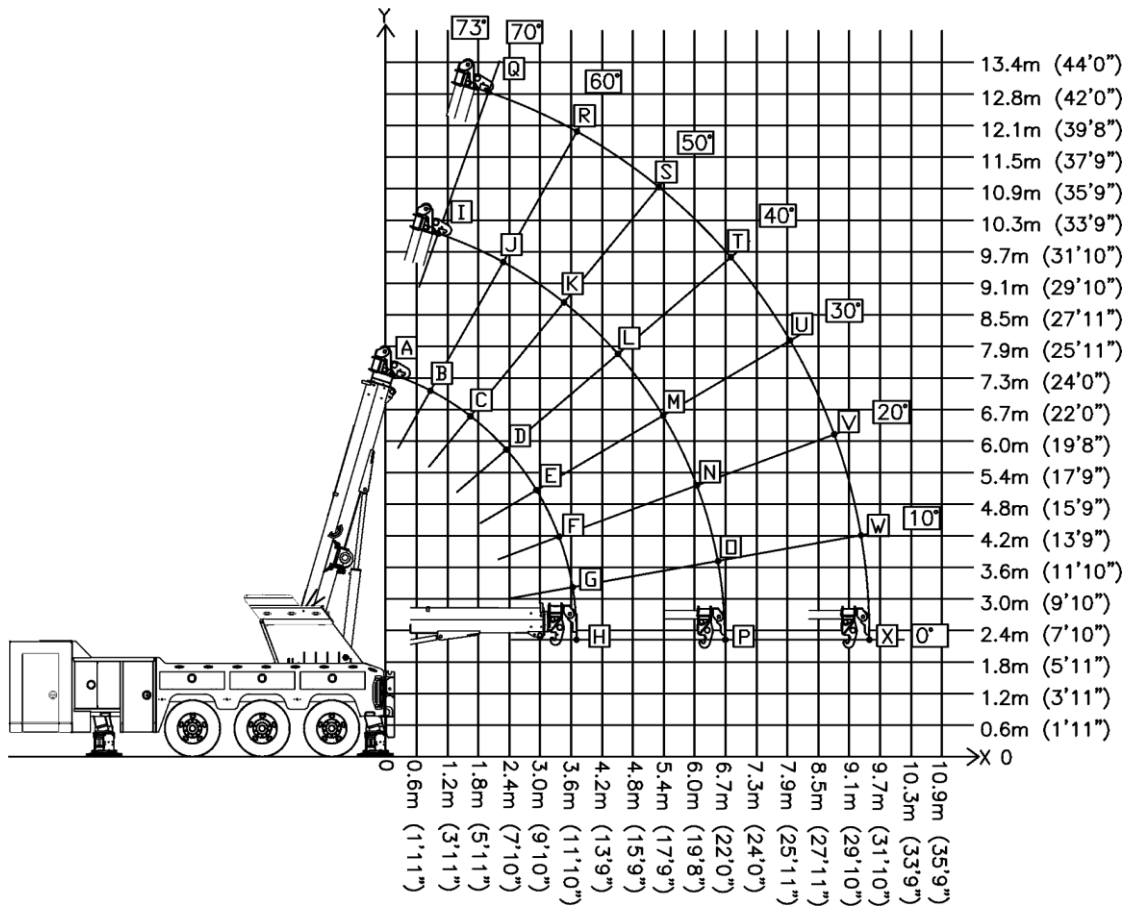

Figure 15 – Lifting Capacity of the 50/65 CSR from Behind
- Figure 15 – Lifting Capacity of the 50/65 CSR from Behind